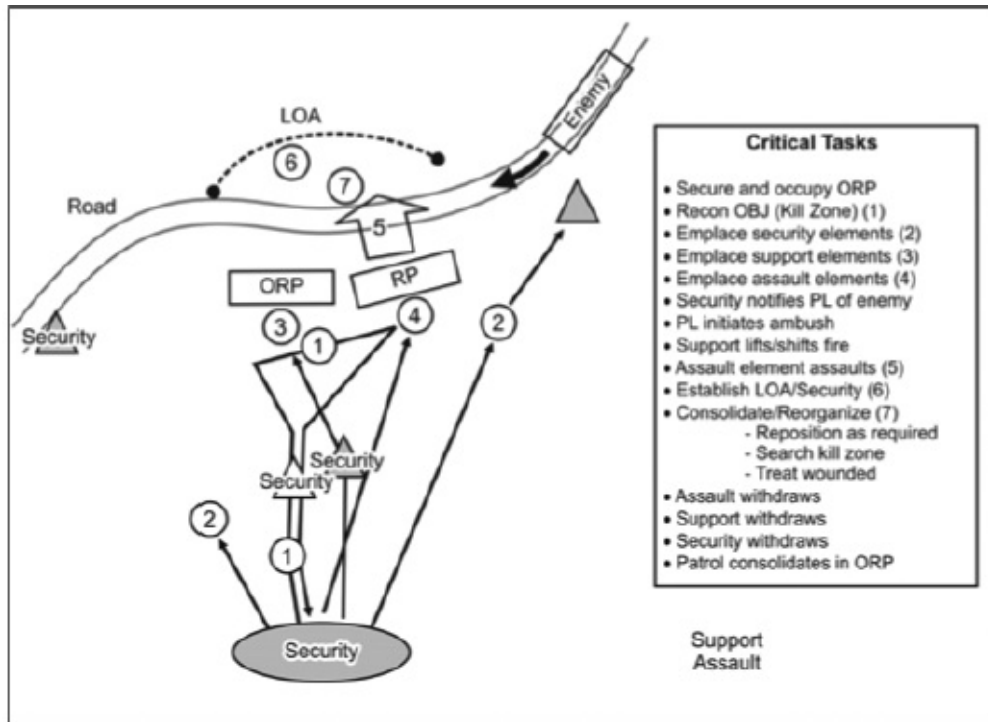

Figure 3-5. Actions on the objective - deliberate ambush
- (1) **Task Standards.** The ambush is emplaced NLT the time specified in the order. The patrol surprises the enemy and engages the enemy main body. The patrol kills or captures all enemy in the kill zone and destroys equipment based on the commander's intent. The patrol withdraws all personnel and equipment from the objective, on order, within the time specified in the order. The patrol obtains all available PIR from the ambush and continues follow-on operations.
(2) ***Actions on the Objective (Deliberate Ambush)***. See Figure 3-5.